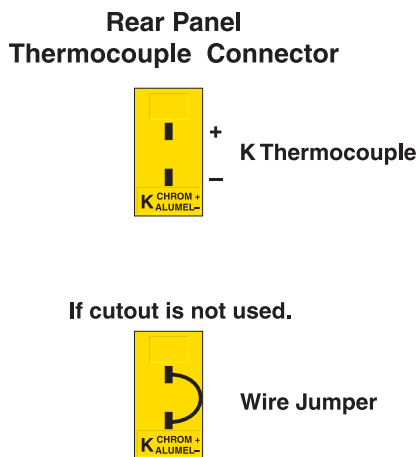

Figure 3 Cutout Probe Connections
Connect the optional thermocouple cutout probe to the back of the controller to the connector labeled “TC”. Insert the probe into the bath or system being controlled. If the safety cutout feature is not to be used then this input must be shorted with a small wire jumper in order for the controller to operate properly (see Figure 3).
(5) The thermocouple cutout probe plugs in here. This probe senses the system temperature for the safety cutout. When the temperature exceeds the cutout set-point the heater is disabled by opening a relay inside the controller. This feature should be utilized for added safety. The thermocouple probe is type K. Probes and connectors are available from Hart Scientific. If the cutout feature of the controller is not used, the thermocouple input must be shorted with a wire jumper in order for the controller to continue to function (see Figure 3 on page 15).
(6) The optional IEEE-488 (GPIB) interface connector for remote computer control.
(7) The RS-232 communications cable is connected to this 9 pin D-subminiature connector. This enables the controller to be programmed and operated remotely.